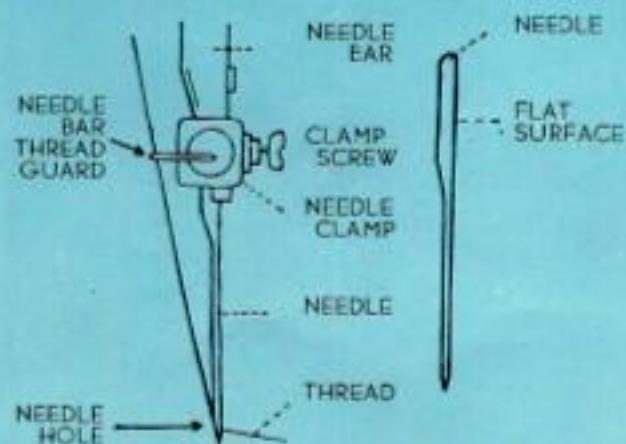

Fig. 3
2. Hold the needle in the left hand with the point down, and insert the needle up into the needle clamp as far as it will go, with its flat surface to the right; then retighten the clamp screw (Fig. 3.)